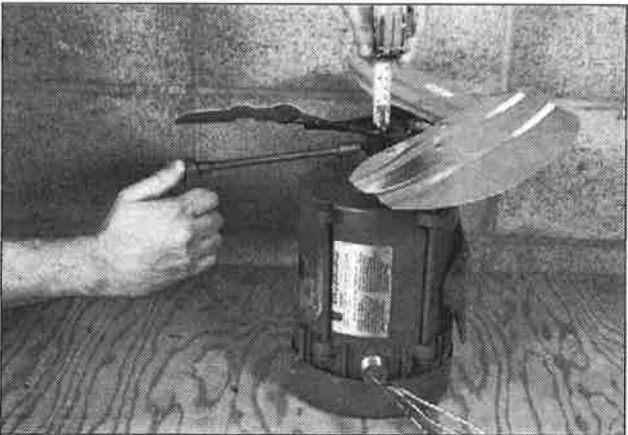

FIGURE 15
5. Before removing the fan, measure and record the location of the fan hub on the motor shaft (see Figure 15). If difficult to remove, use a gear puller on the fan hub.